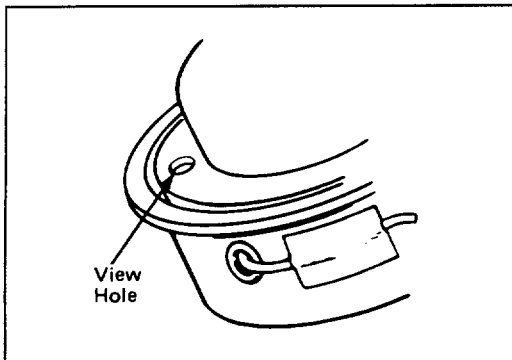

Figure 7
1. To avoid line tangle during shipment, the tip of the monofilament line has been taped to the head assembly. The tape must be removed before operation (Fig. 7).
2. A view hole in the spool cap is provided to show how much line remains on the spool without removing spool (Fig. 7).